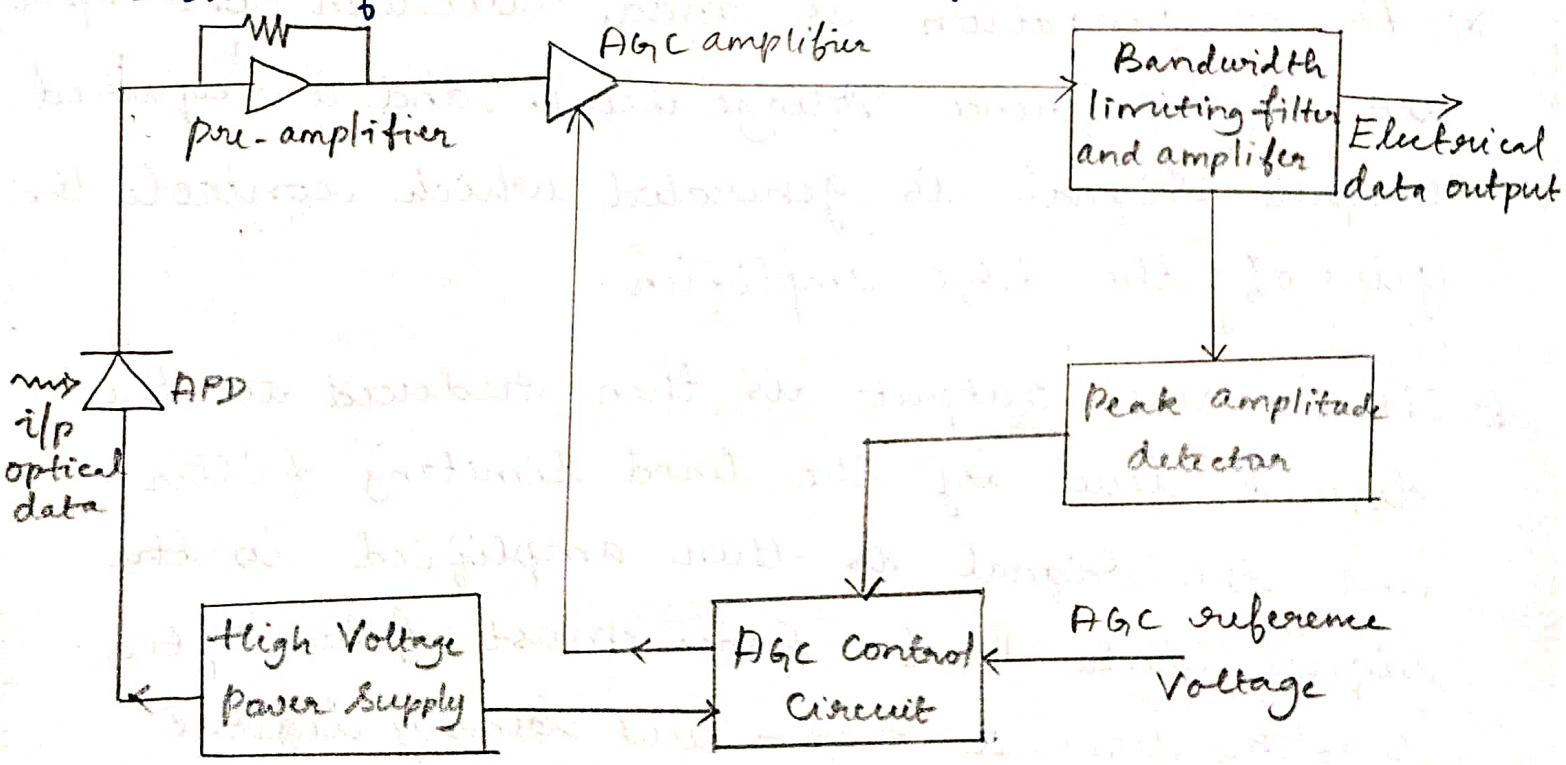

Fig 4:1 Fiber Optic link Receiver:
* when an optical data are incident on the APD, higher current pulses get flow through the circuit as shown in fig 4:1